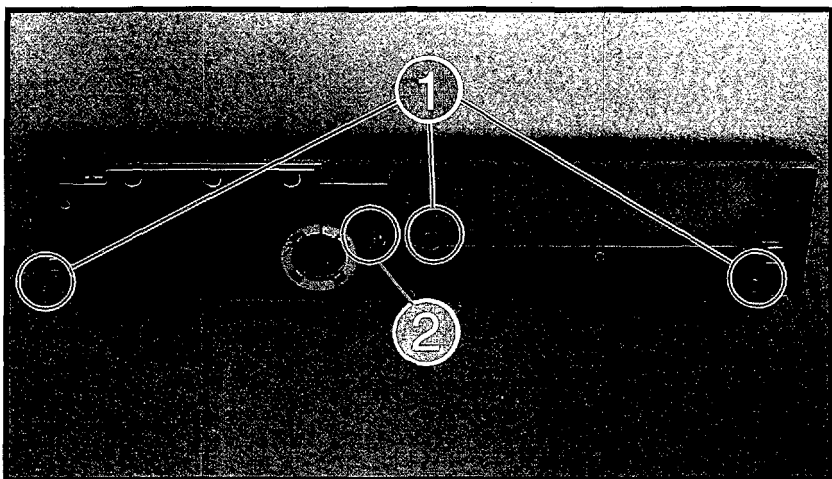

Figure 6-12 Control Panel RFI Shield (LaserJet 4P/4MP)
4. Remove the three self tapping RFI shield screws (Figure 6-12, callout 1) and one machine screw (callout 2).